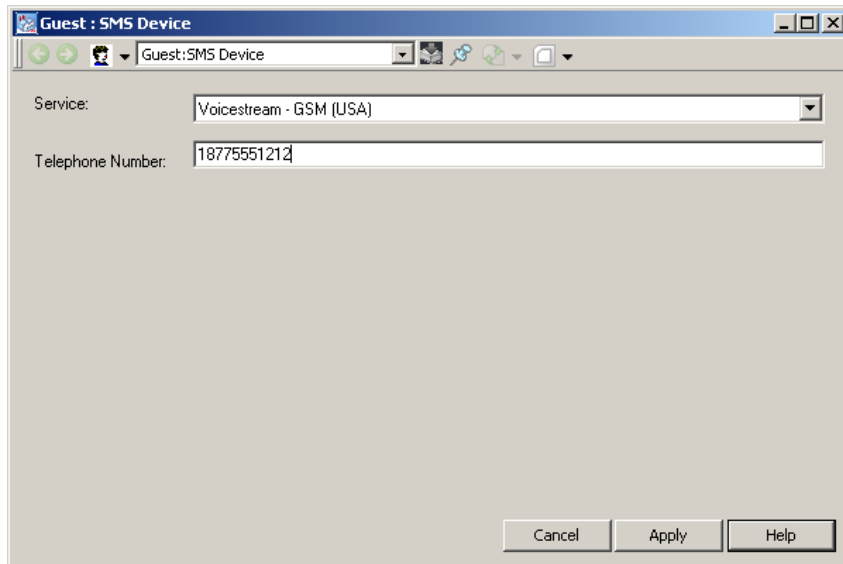

Figure 101. SMS/GSM Device
13. Enter this user's GSM telephone number to produce a view similar to the one shown in Figure 101. Enter the GSM telephone number without spaces and always include the Country Code.